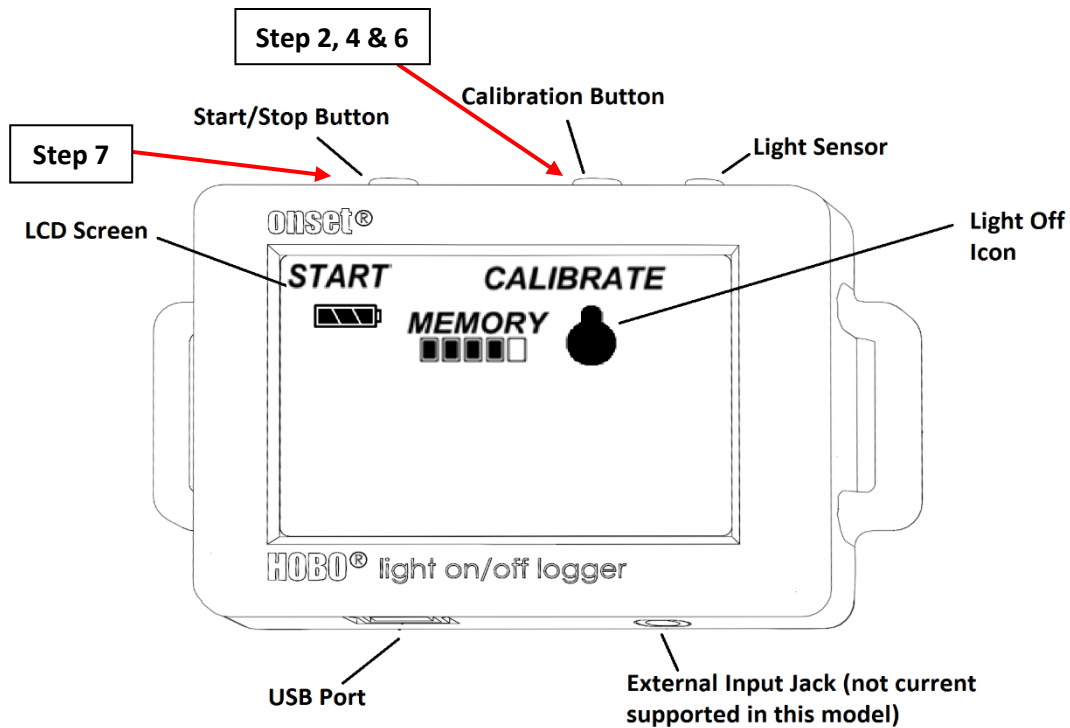
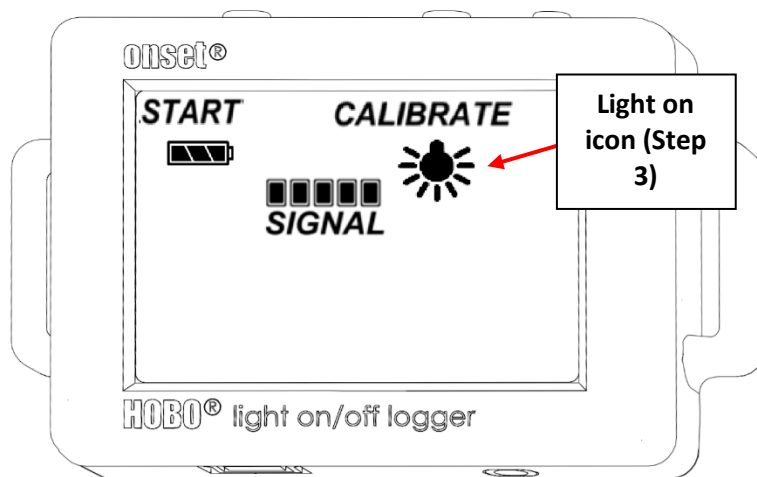

Figure A.5.9: A labeled diagram of the onset HOBO motor on/off data logger with initial startup screen.
Figure A.5.10: HOBO motor on/off data logger with full signal strength.
1. Ensure that the LCD screen displays what is shown on Figure A.5.9. The light off icon may be displayed as shown on this figure instead of the light on icon. Ignore whatever icon is there for now.
2. Press and hold the Calibration Button (Figure A.5.9) until “MEMORY” and the five bars underneath as shown on Figure A.5.9 are replaced with “SIGNAL” and 5 bars right under as shown in Figure A.5.10. Some or all of the bars right under the word “SIGNAL” should be filled.
3. In Figure A.5.8 and Figure A.5.10, all of the bars right under the word “SIGNAL” are filled, which indicate full/optimal signal strength. All bars right under the word “SIGNAL” should be filled. If not, reposition the logger until all 5 signal bars are filled. The light on icon should also be displayed on the LCD screen as shown on Figure A.5.10.
6. The LCD screen will revert to what is shown on Figure A.5.9 (with the light on icon instead of the light off icon) after following step 5. Press the Calibration Button again and ensure that the signal strength is still the same as it was on Step 3.